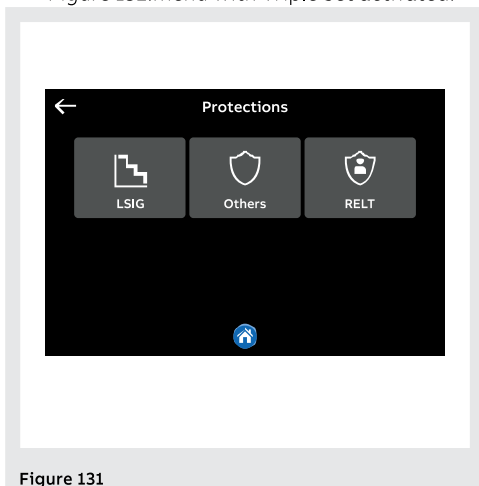

Figure 131
- Figure 131: menu with Double set or Triple set disabled or deactivated, level 2 is accessed directly in this case;